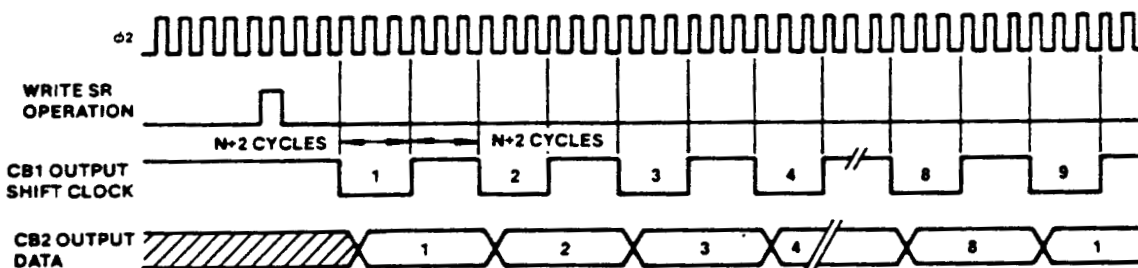

Figure 33. Shift Out—Free Running T2 Rate
Shift Out—Free Running at T2 Rate (100)—This mode is similar to mode 101 in which the shifting rate is determined by T2. However, in mode 100 the Shift Register Counter does not stop the shifting operation. Since Shift Register bit 7 (SR7) is recirculated back into bit 0, the eight bits loaded into the Shift Register will be clocked onto the CB2 line repetitively. In this mode, the Shift Register Counter is disabled and $\overline{\text{IRQ}}$ is never set. Refer to Figure 33.